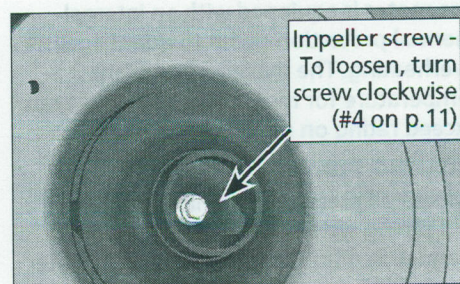

Figure 5
8. Remove screw from center of impeller. The threads are reversed. Turn clockwise to loosen screw (Figure 5).